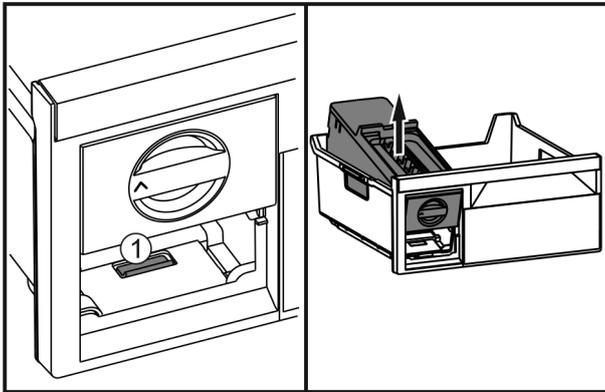

Fig. 40
- ▶ Press the lug Fig. 40 (1), lift up the EasyTwist-Ice at the rear and take it out of the freezer drawer.